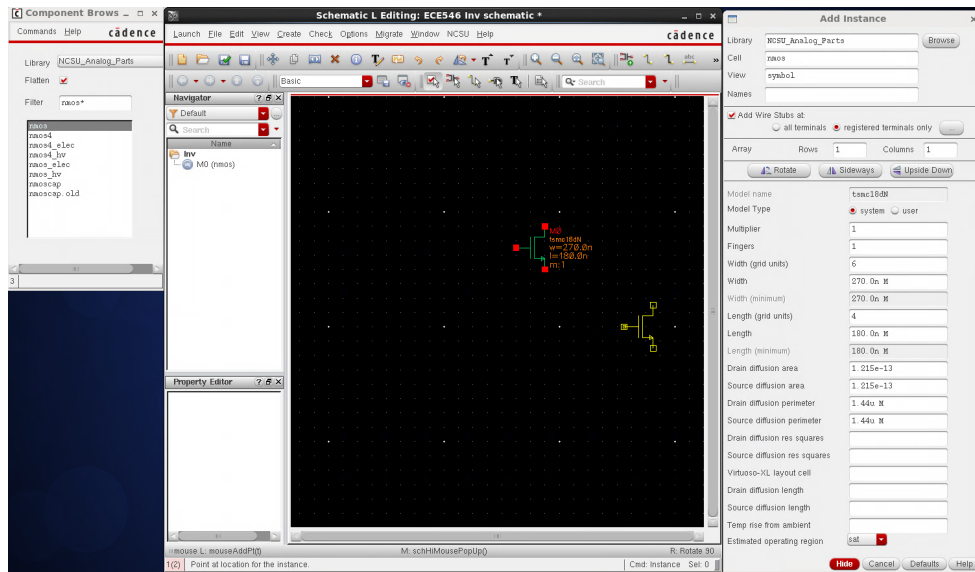

Figure 6. Window view for step 8
8. On the '**Add Instance**' window, click '**Browse**' and a new window will pop up as shown in Figure 6. Choose "**NCSU_Analog_Parts**" as the library and '**nmos**' as the cell, '**symbol**' as the view. Next, go back to the schematic window and click anywhere of the empty space; an nmos transistor symbol will be added. You can press '**ESC**' to cancel the add instance command. Please use the same method to add a pmos transistor with minimal length and width.